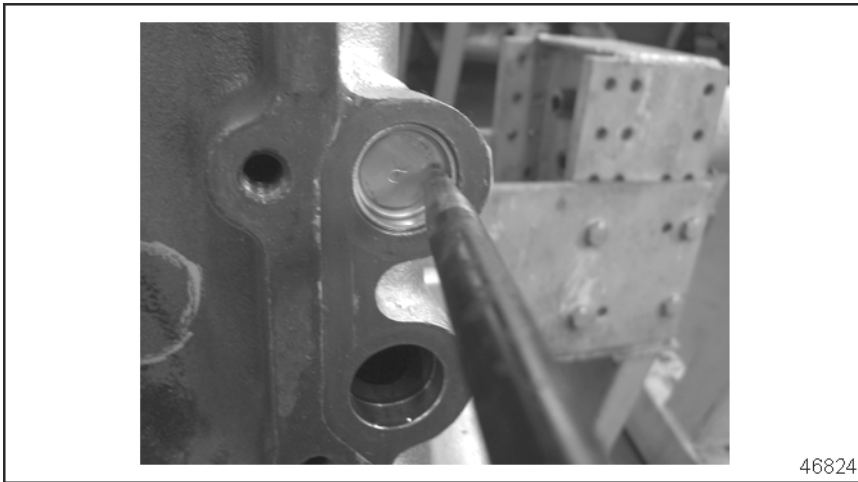

Figure 3 Proper Location of Punch to Turn Plug Sideways
- a. Use a punch or chisel to hit the bottom of the cup plug near one side to turn it sideways. See Figure 3.
3. Remove the former cup plug. Make sure to not damage the plug bore in the cylinder block. See Figures 3 and 4.